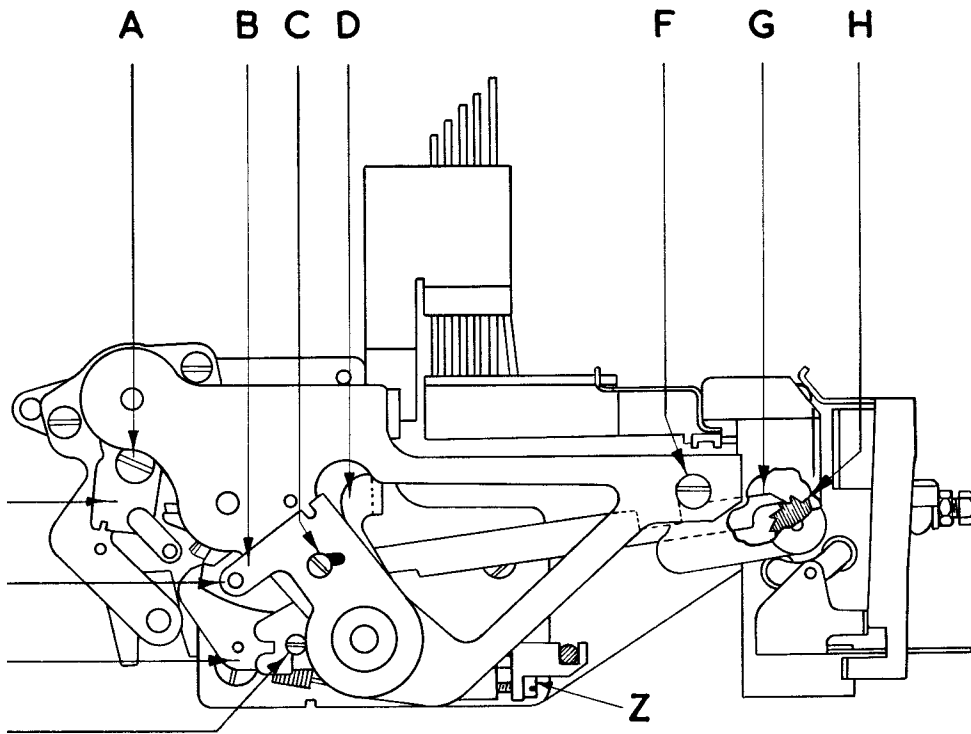
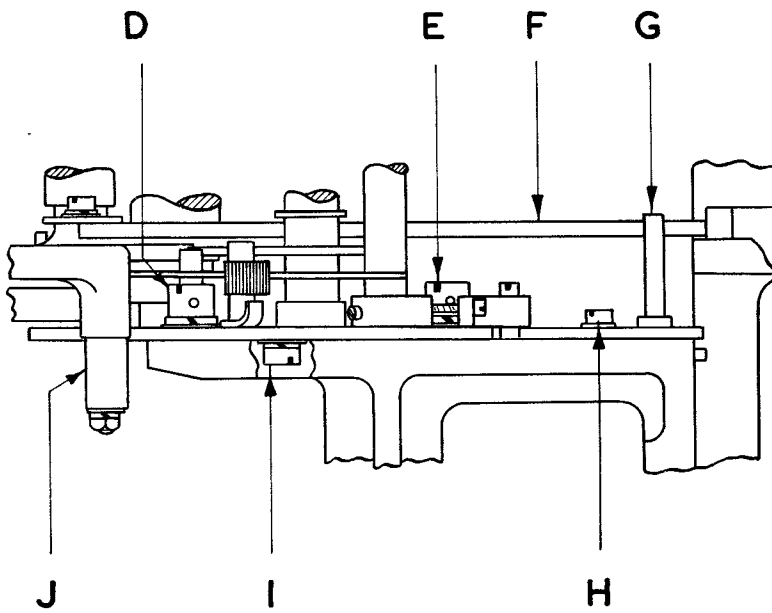

FIG. 22
FIG. 31
#### **"27A. Punching Depth (Figs. 22, 28 and 31)**
- 27A.2 With the machine in the stop position, loosen screws D and E, Fig. 31, and screw F, Fig. 22. Slacken screw Z, Fig. 22, and move the punching cam assembly to the left as far as it will go.
- 27A.3 Put the end of a blank piece of tape into the punching head. Turn the punching camshaft by hand until the top punching bar moves fully to the right. Without turning the camshaft, draw the complete cam assembly to the right by slowly turning the adjusting screw Z, Fig. 22, clockwise. Using the tape as a feeler, stop turning when the top punch touches but does not pierce the tape.
- 27A.4 Turn screw Z, Fig. 22, clockwise by a further half to three-quarters of a turn. Since the pitch of this adjusting screw is approximately .020 in. (.51 mm.), this will give a punching depth of .010 - .015 in. (.25 - .38 mm.). Tighten screws D and E, Fig. 31, and screw F, Fig. 22.
Delete Figs. 22 and 31 and substitute the attached Figs. 22 and 31.